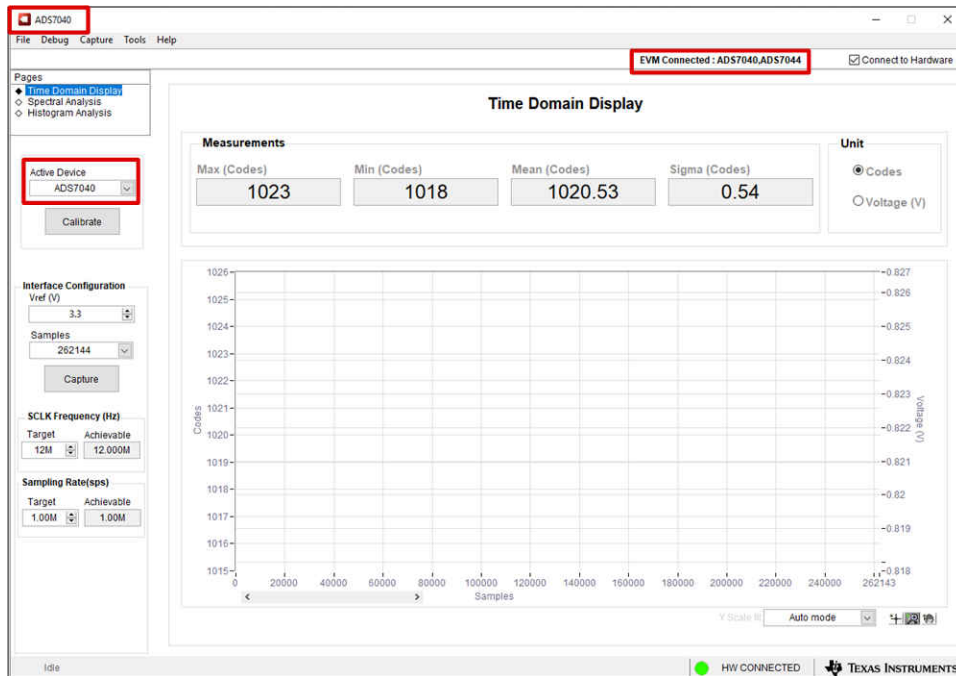

Figure 4-7. GUI Main Screen After EEPROM is Updated Successfully
5. Verify the EEPROM loaded correctly by reviewing the ADC name in the upper left corner of the GUI, the supported devices in the upper right of the GUI, and the *Active Device* drop-down menu (see Figure 4-7)